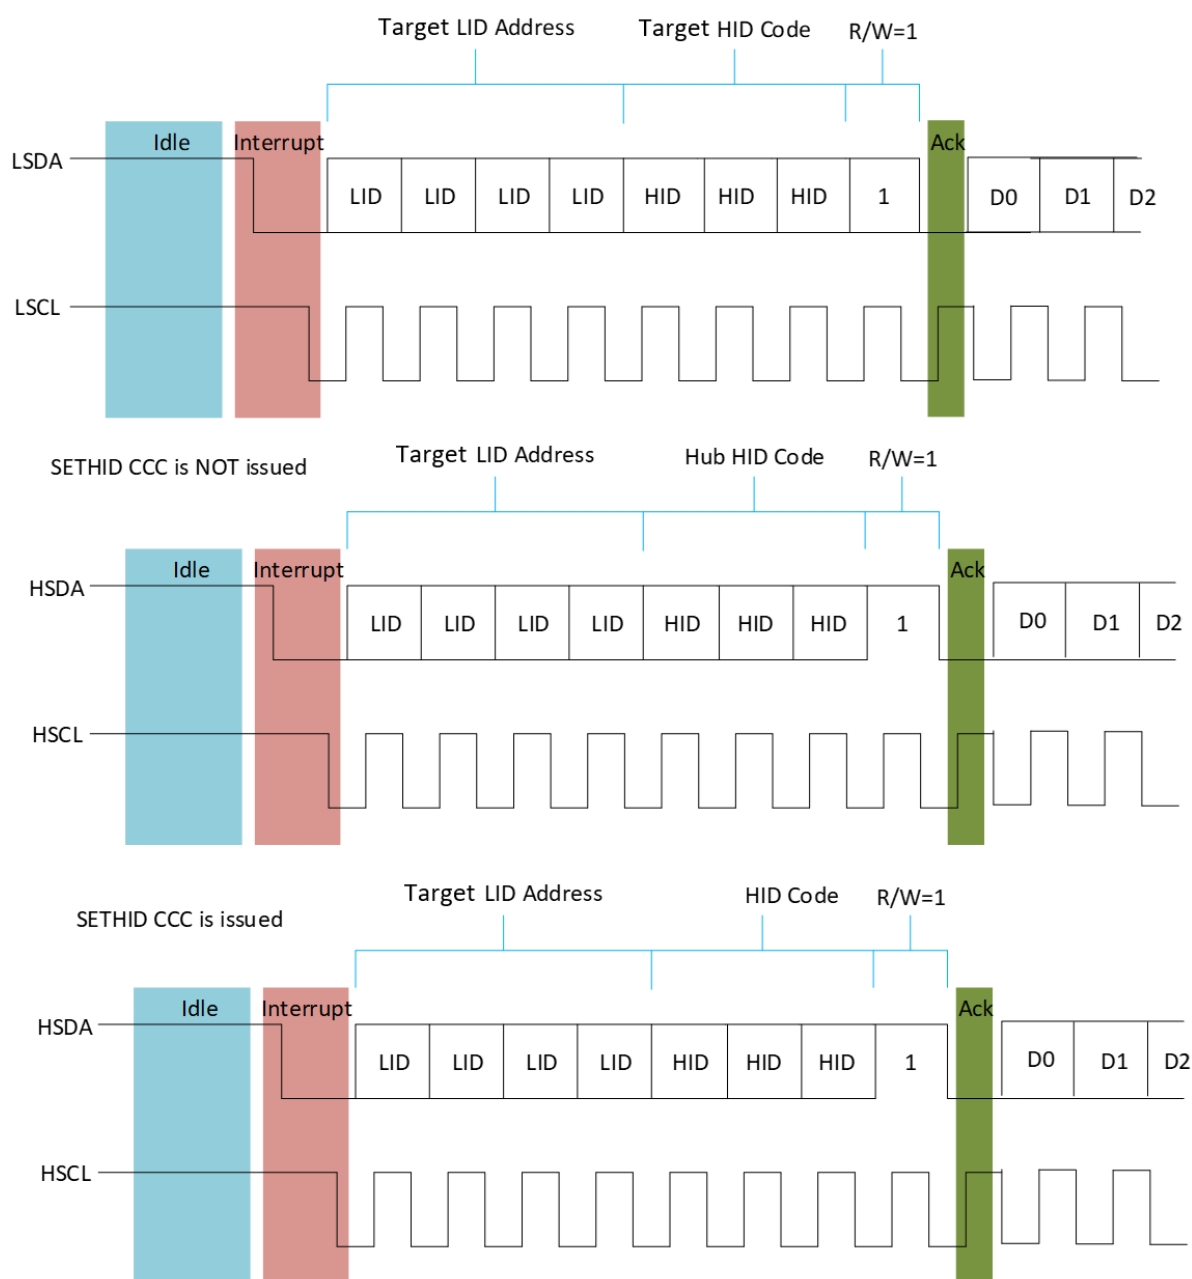

Figure 11 Local Device Interrupt - Host ACK Followed by Target Device IBI Payload
If the local device detects no START condition but if the Host to the local target device (through the SPD5 Hub device) bus (LSDA and LSCL) has been inactive (no edges seen) for t_{AVAIL} period, then any local device may assert LSDA low to request an interrupt. When the local device requests an interrupt, the SPD5 Hub device propagates the LSDA to HSDA to Host. The Host toggles the HSCL. The local device transmits its 7-bit binary address followed by R/W bit = '1' to the SPD5 Hub device. This is shown in Figure 11 top waveform.
The SPD5 Hub device forwards LID bits it receives from the local device to the Host. The SPD5 Hub device substitutes its own HID code in place of the HID bits it receives from the local device and sends to the Host if Host has not issued SETHID CCC previously. This is shown in Figure 11 middle waveform. The SPD5 Hub device forwards HID bits it receives from the local device to the host if Host has issued SETHID CCC previously. This is shown in Figure 11 bottom waveform. The SPD5 Hub device forwards the R/W bit = '1' to the Host.
- a. The Host sends ACK on 9th bit to accept the interrupt request. At this point, if the local device confirms that it has won the arbitration, the local device transmits the IBI payload as shown in Table 66 and Table 67 for PEC disabled and PEC enabled configuration respectively. Figure 11 just shows only first two data bits of MDB byte to illustrate the timing. The interrupt payload contains MDB followed by appropriate target device error register contents in order. The host then issues the STOP command. Note the timing waveform in Figure 11. The host then accepts the IBI payload if it sends an ACK on 9th bit to accept the interrupt request. The host can interrupt the IBI payload at T bit. If host stops the IBI payload at T bit in the middle of payload, the local device retains the IBI status flag and Pending Interrupt Bits [3:0] internally and waits for the next opportunity to request an interrupt. If the local device successfully transmits the entire IBI payload, it then clears IBI status flag and Pending Interrupt Bits [3:0] = '0000' on its own and does not request for an IBI again unless there is another different event occurs; for another same event, the device does not request for an IBI.